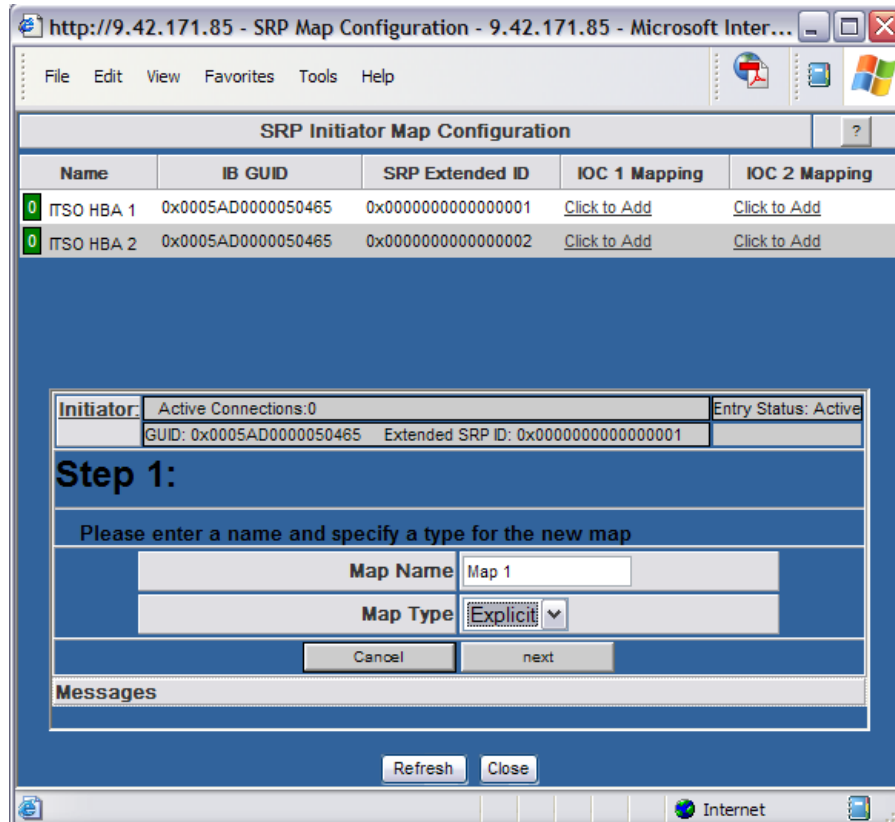

Figure 4-29 Add explicit map
- Give the map a name and select a map type, then click **Next** as shown in Figure 4-29 on page 56. There are two mapping types: